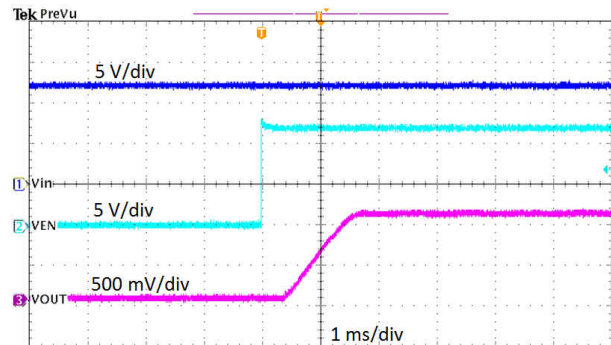

Figure 4-11. Start-Up Relative to EN
The TPS561201EVM-896 start-up waveform relative to enable (EN) is shown in Figure 4-11. Load = $1.05\ \Omega$ resistive.